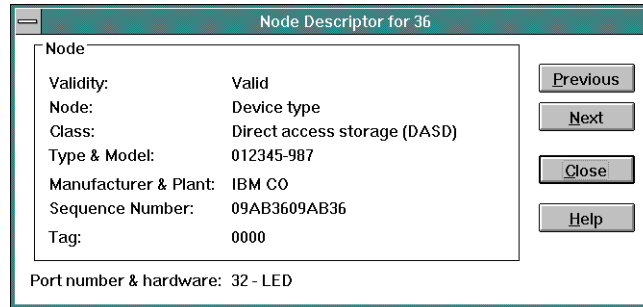

Figure 2-44. *Node Descriptor Dialog Box for Port*
- Double-click on the port address of the desired port to display the same *Node Descriptor* dialog box for the physical port as shown in Figure 2-44. Click on the *Previous* or *Next* buttons to display descriptors for lower or higher numbered ports.